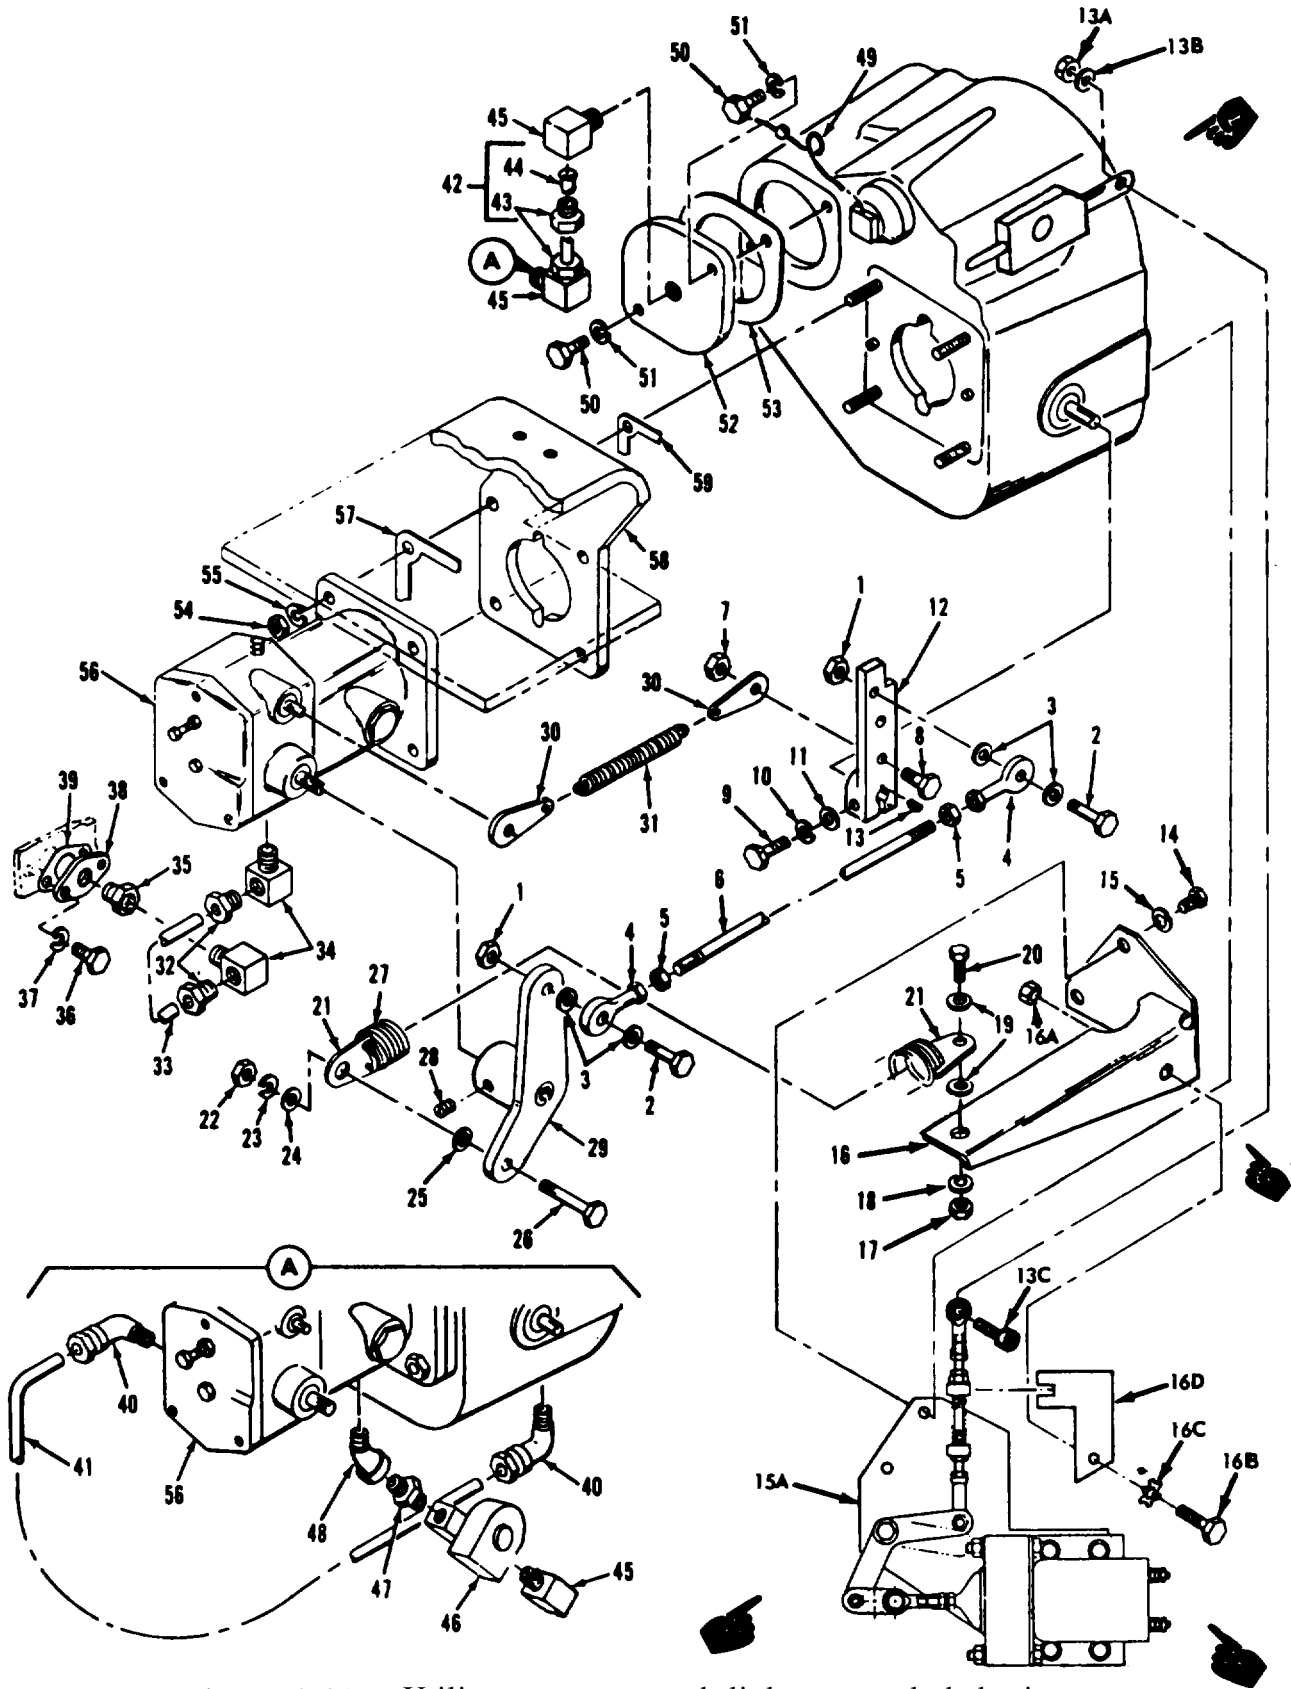
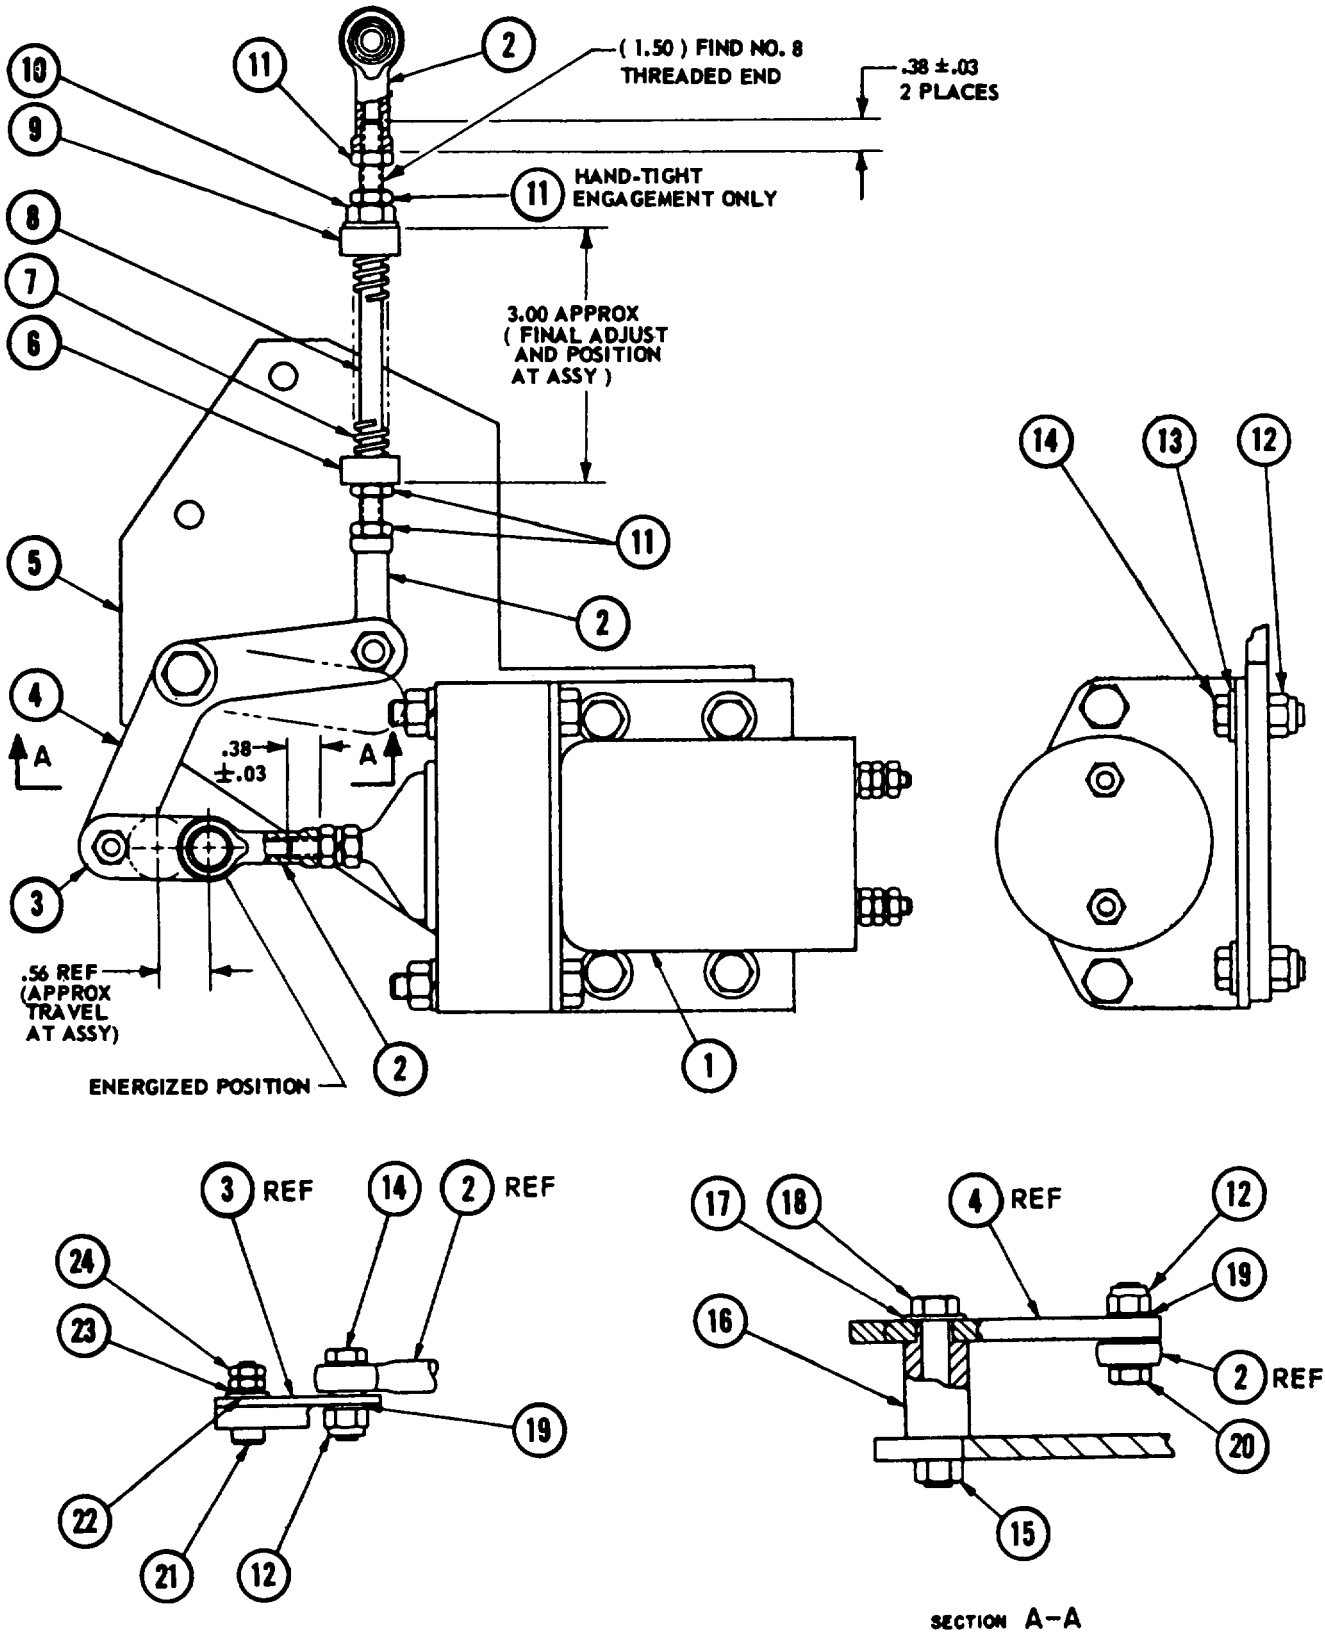

Figure 8-31. Utility governor and linkage, exploded view
Figure 8-31A. Overspeed Shutdown Device
c. UTILITY GOVERNOR, LINKAGE AND OVERSPEED SHUTDOWN DEVICE. Refer to figure 8-31 and remove utility governor, linkage, oil lines and overspeed shutdown device in the order of index numbers assigned. Refer to figure 8-31A when disassembly of overspeed shutdown device is required.
Legend to figure 8-31:
Legend to figure 8-31A: